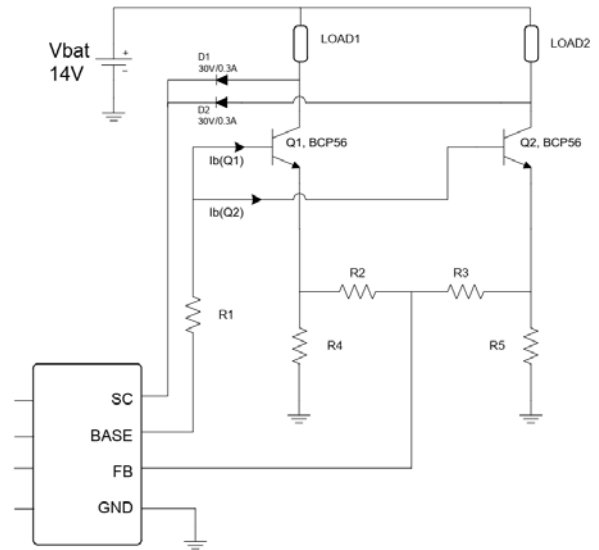
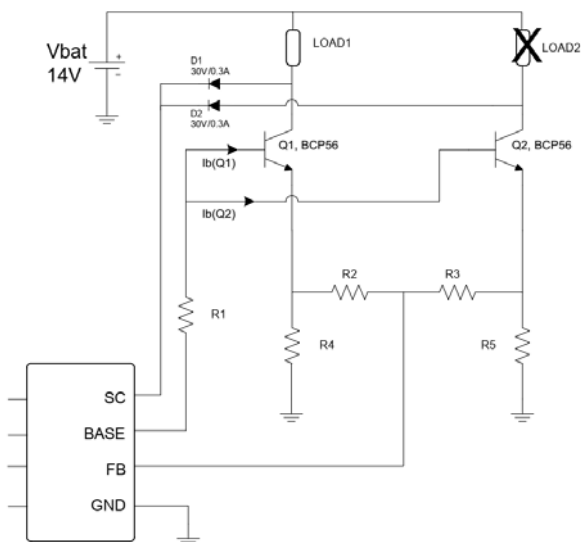

Figure 13. Driving Multiple Strings
Figure 14. Open Circuit
Figure 13 along with Figure 14 and Figure 15 highlight the use of the PT16976 device with multiple strings connected to a common drive BASE pin and using external resistors to tie additional strings to a common feedback point (FB). The FB pin will maintain regulation with the FB pin at 152 mV. R1 is used to limit current in the event of an open circuit on one of the strings.
Figure 14: Open Circuit. It shows the change in BASE drive which occurs with an open circuit in one of the strings. The drive current out of BASE changes from $(I_b(Q1) + I_b(Q2))$ to $(I_b(Q1) + I_c(Q2))$ as regulation will try to maintain in the loop to get 152 mV on FB.